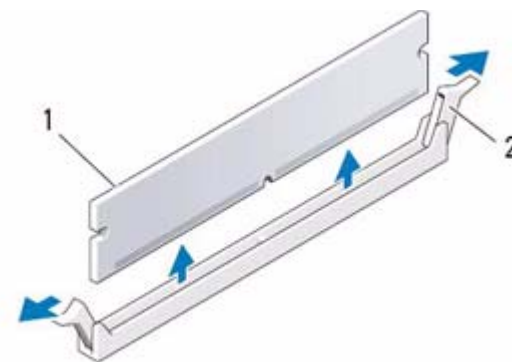

Figure 30:
5. Press out the Securing Clip at each of the Memory Module connectors as shown in Figure 30 on page 37.